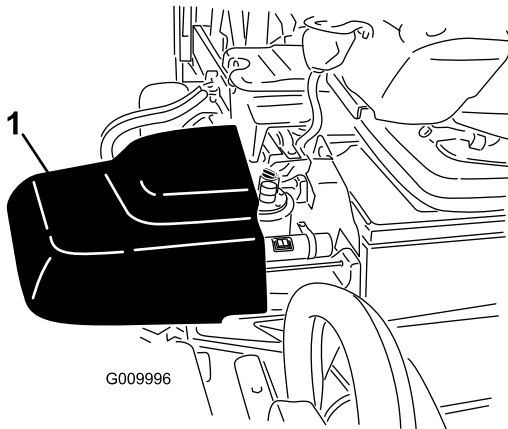

Figure 16
2. Pull up slightly on the outside edges of the tank cover and slide out the hydraulic tank shroud to expose the hydraulic tank filler neck and cap (Figure 16).